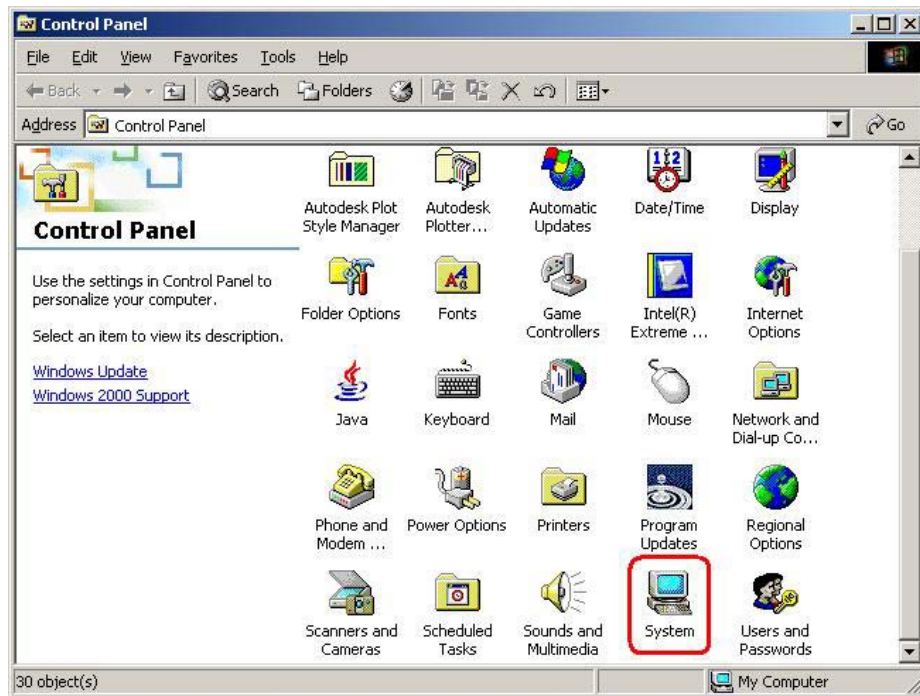

Figure 6-4: Double Click the System Icon
Step 2: Double click the **System** icon (Figure 6-4).